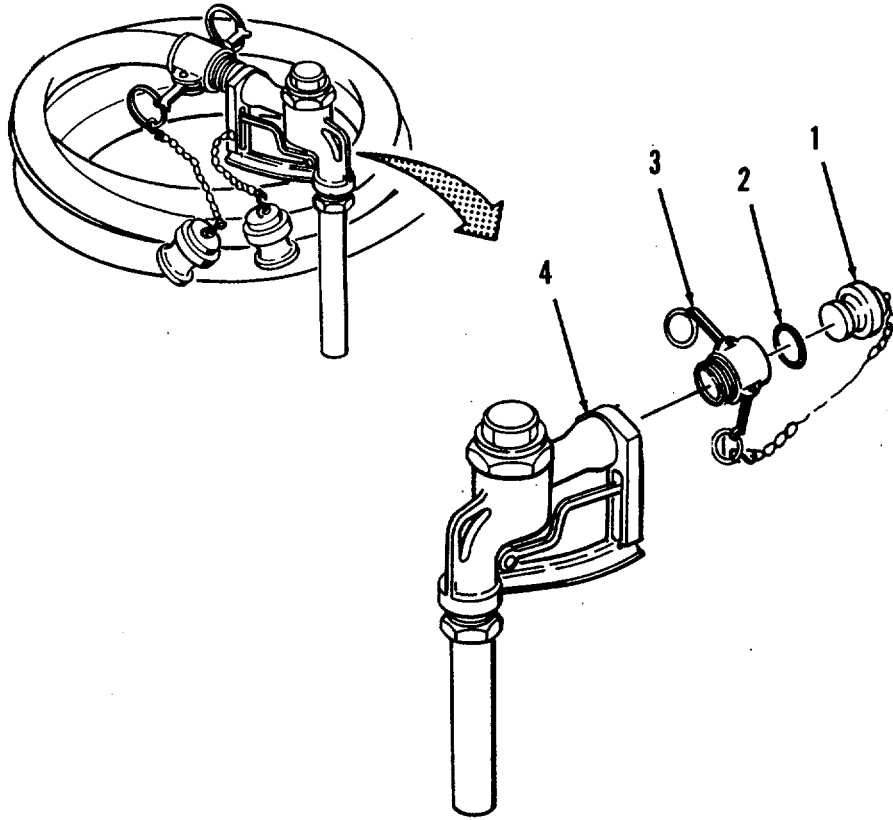

Figure 4-2. Nozzle Assembly Repair.
a. Disassembly. (Refer to Figure 4-2).
- (1) Remove quick disconnect plug (1) and gasket (2) from coupling half (3).
- (2) Remove coupling half (3) from nozzle (4).